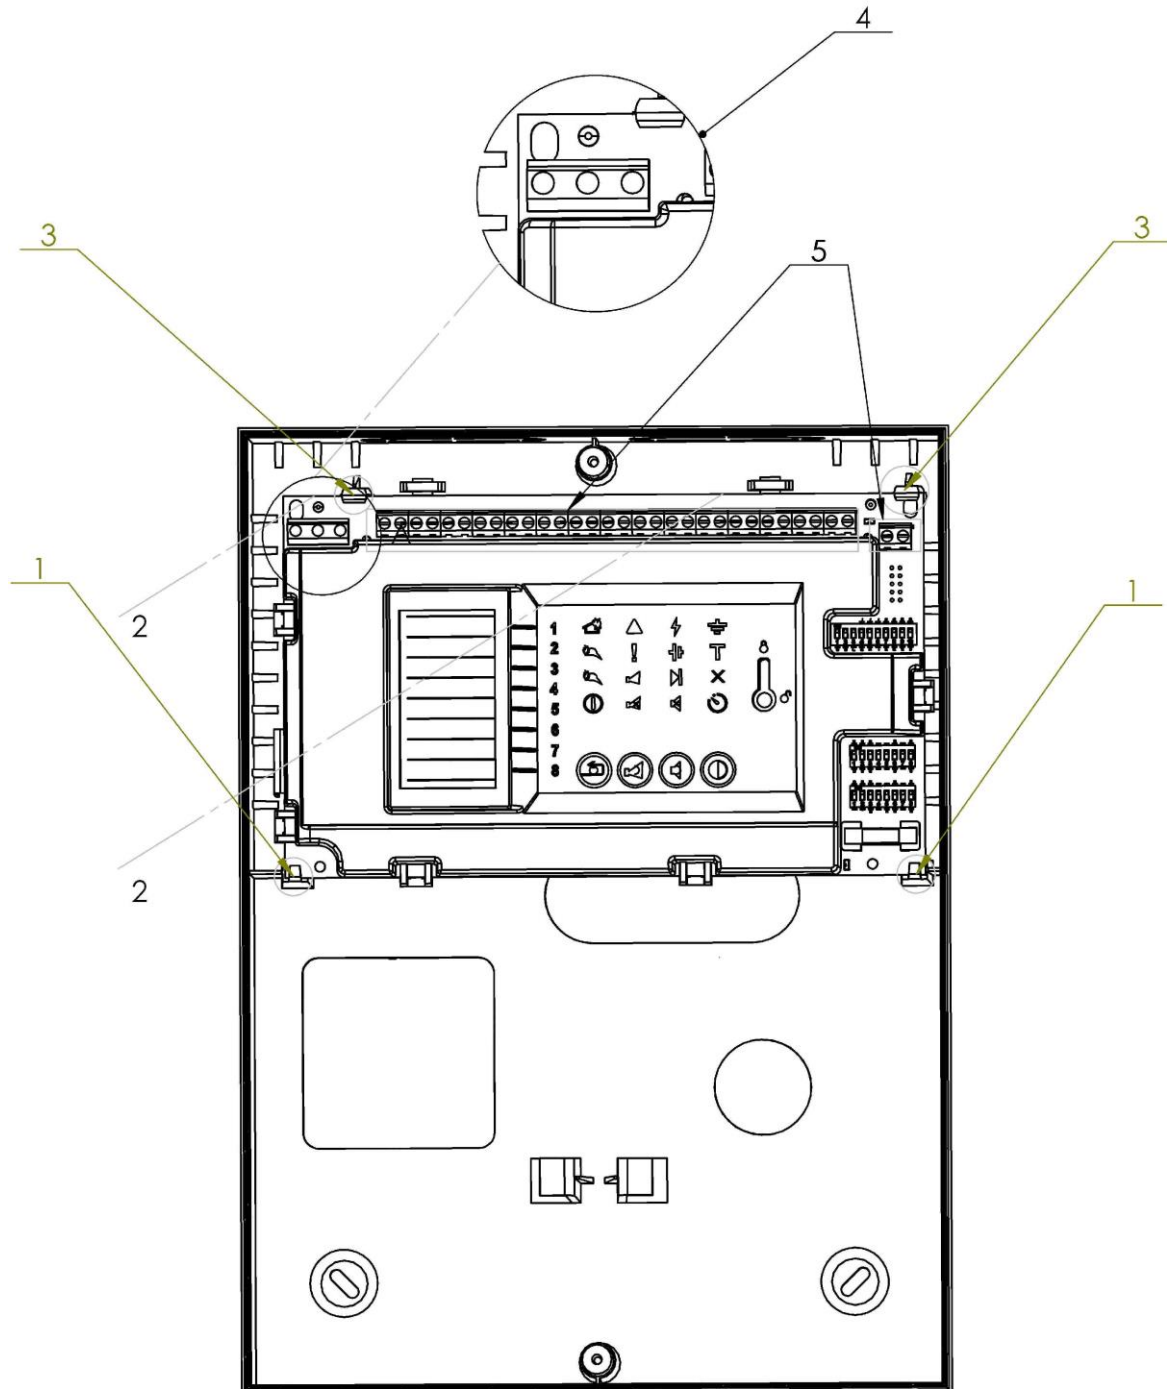

Fig.12
The interface board is put back to its initial position (Fig.12) :
- The bottom side of the interface board is mounted on the holders (fig.12, pos.1);
- The top side of the interface board is pushed until the top-side holders click to fix it (fig.12,pos.3);
- The power line is connected in the PCB connector in FCP (fig.12, pos.4);
- Fully tighten the signal line cables, dedicated to the conventional zones and fire alarm and protection equipment (fig.12, pos.5).